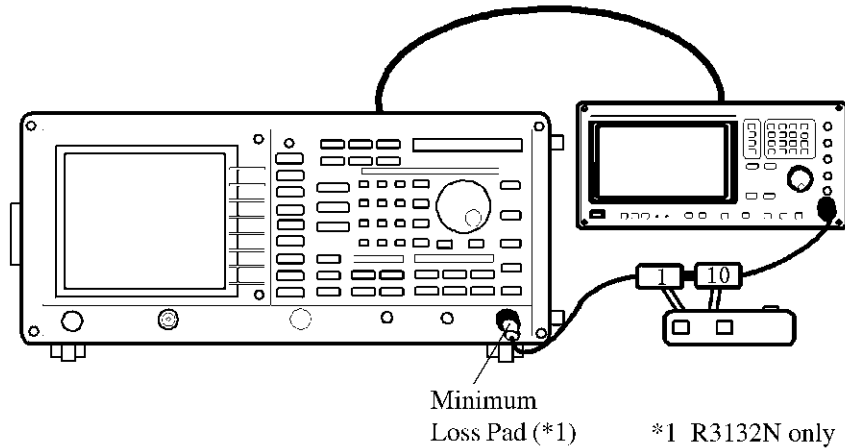

Figure 5-7 Setup of IF Gain Uncertainty Test
3. On the R3132 series, after AUTO CAL function has completed, connect equipment as shown in Figure 5-7.